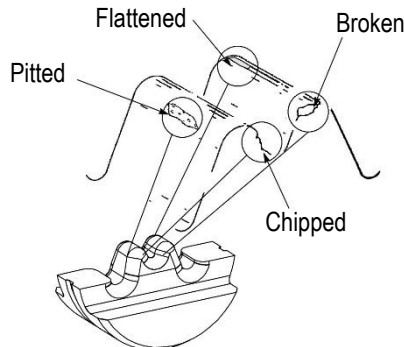

Figure 7
A. Visual Inspection (Figure 7)